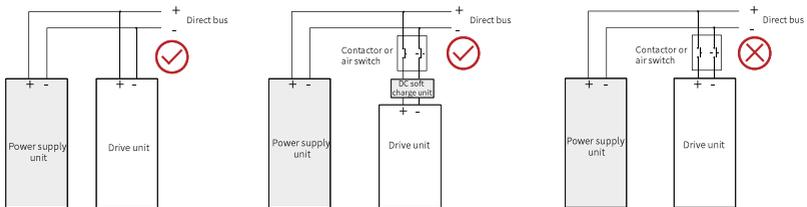

Figure 4-1 DC bus wiring
- The drive unit has a built-in fuse. Never power on the drive unit independently without a DC soft charge unit installed. Otherwise, the drive unit will be damaged. "Figure 4-1" on page 57 describes the correct and incorrect wiring methods.